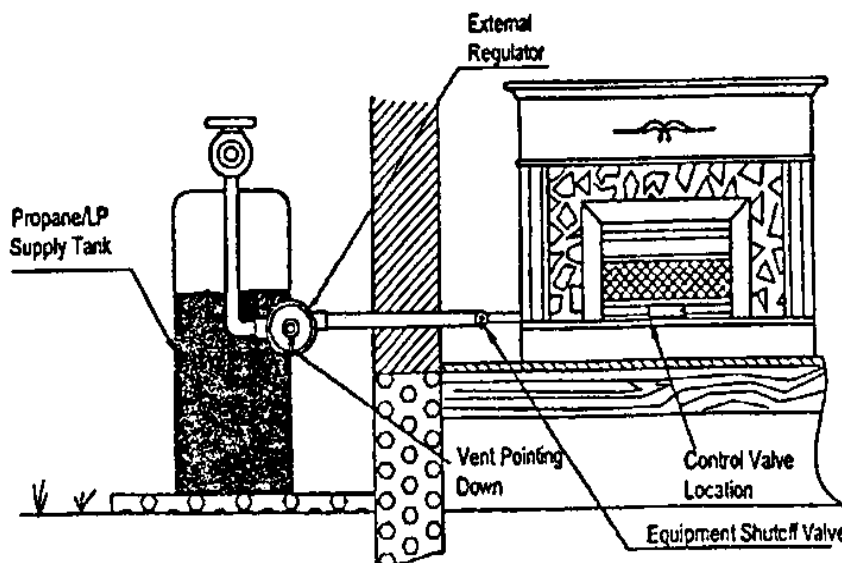

Figure 9 -Checking Gas Joints
4. Check all joints from equipment shutoff valve to control valve (Figure 9). Apply mixture of liquid soap and water to gas joints. Bubbles forming show a leak.
3. Check all joints from gas meter to equipment shutoff valve(see Figure 9). Apply mixture of liquid soap and water to gas joints. Bubbles forming show a leak.